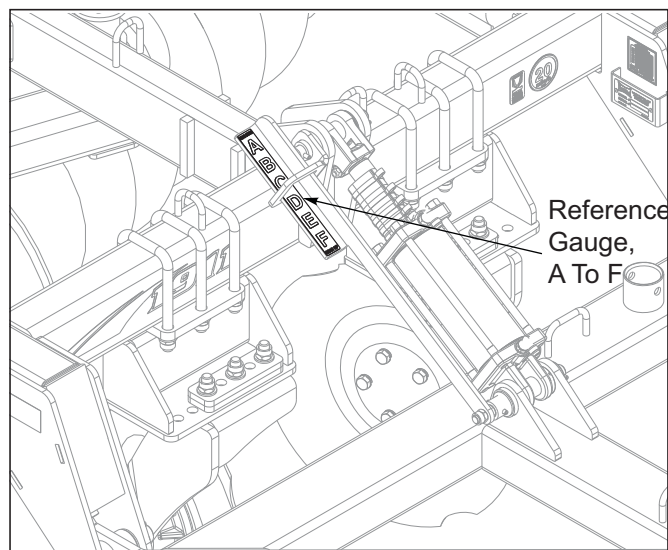

Figure 4-3: Reference Gauge
5. Any change in working depth of the unit will require a change to the leveling feature to maintain front-to-rear levelness. These adjustments can be made on-the-go from the tractor and there is a reference gauge located on the center of the machine See Figure 4-3.